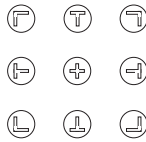

Figure 24: Preset Position Control Keys
- Using the preset position control keys2 (see Figure 24) on the infra-red